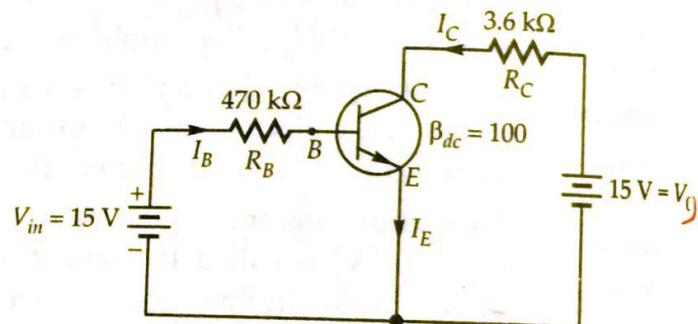

Figure 5.12
**Example 5.7** A transistor is connected in CE configuration as shown in Fig. 5.12. Use the ideal transistor. Determine (i)  $V_{BE}$  (ii)  $I_B$  (iii)  $I_C$  (iv)  $V_{CE}$  (v)  $I_E$ .
**Example 5.8** What are  $I_B$ ,  $I_C$  and  $V_{CE}$  in Fig. 5.12, if  $V_{BE} = 0.7\text{V}$ ?